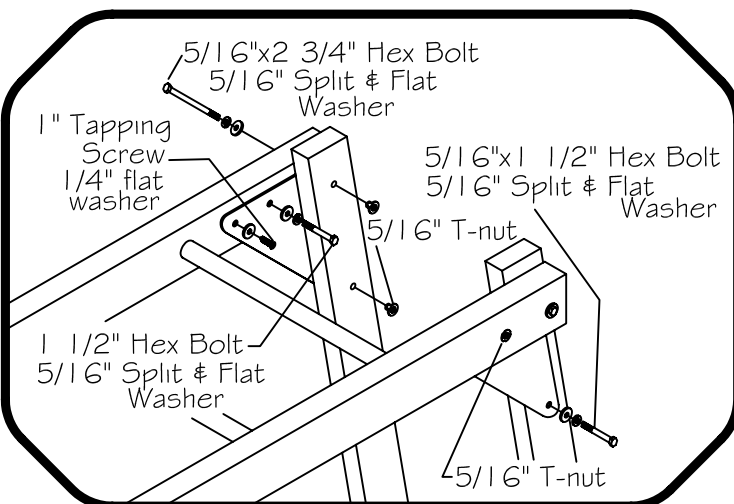

FIG. 13
Step 1: Gather (1) Top Ladder 'A', (1) End Ladder 'B', (4) L-Brackets & (2) Metal Angle Braces.
Step 2: Attach Monkey Bar End Ladder to Monkey Bar Top Ladder with Metal Angle Braces between the two and with hardware shown. (See Fig. 13)